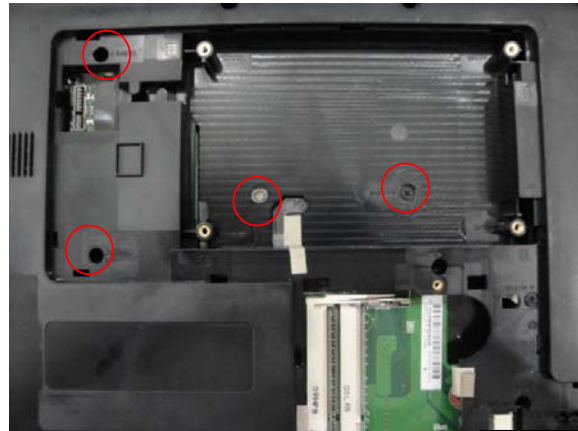

Fig.1
1. Loosen four screws on HDD door.(Fig.1)